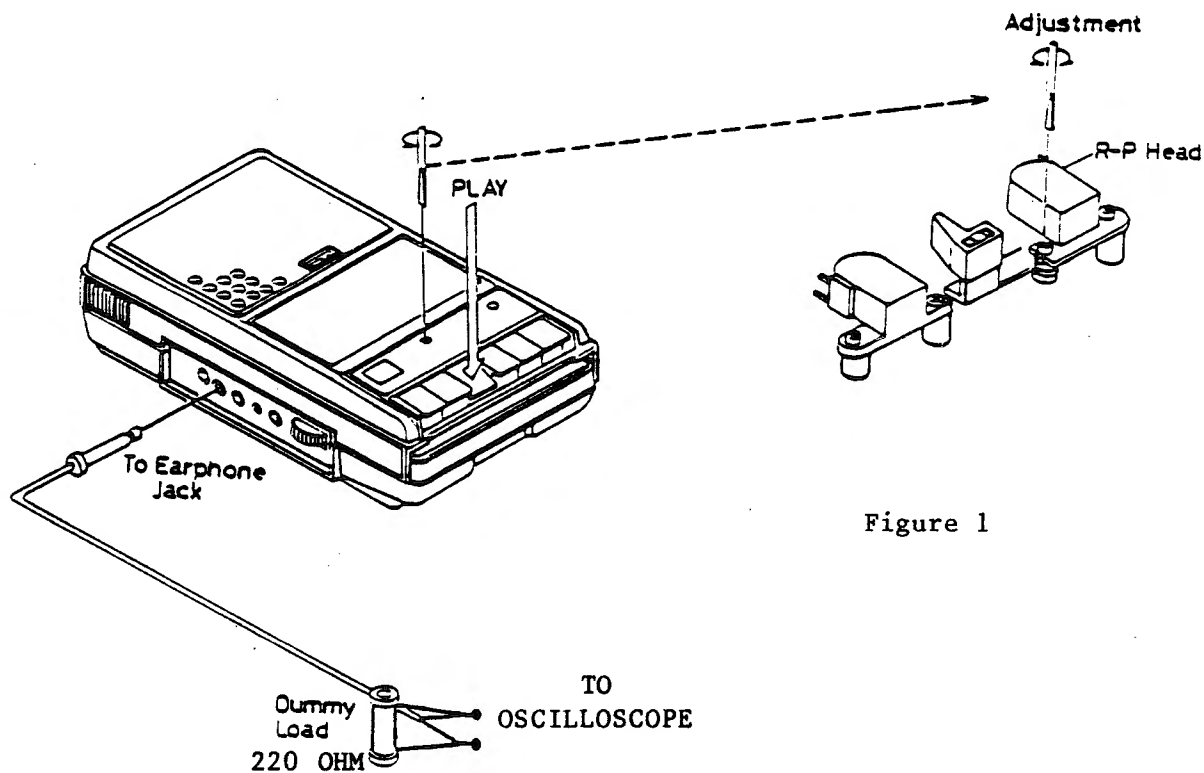

Figure 1
- D. If recorder is out of tolerance insert small screwdriver through the hole on top of the recorder (may have to open recorder) and adjust to obtain equal amplitude readings from both sides of the tape. (See figure 1)